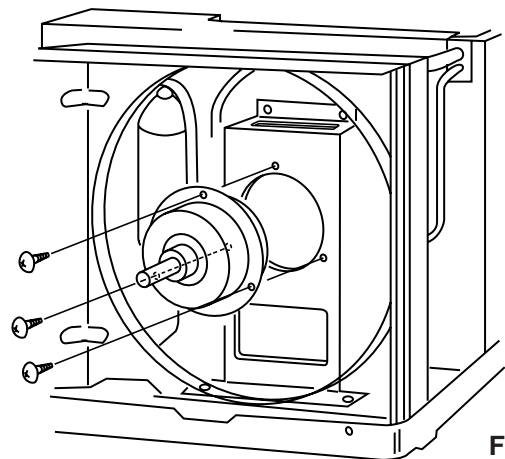

Fig. 16
- (4) Remove 3 screws of the fan motor mounting plate with a philip screwdriver. (Fig. 16)
- (5) Disengage the fan motor from the mounting plate.